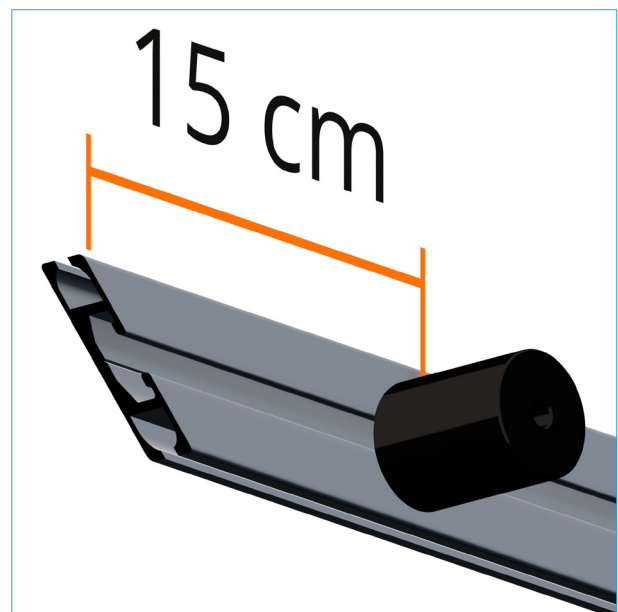

figure 1.2
outer edges of the system to the inside. (*fig. 1.2*).
1.1), and 15 cm distance from cylinder to the outer edge of the profile. (*fig. 1.2*)